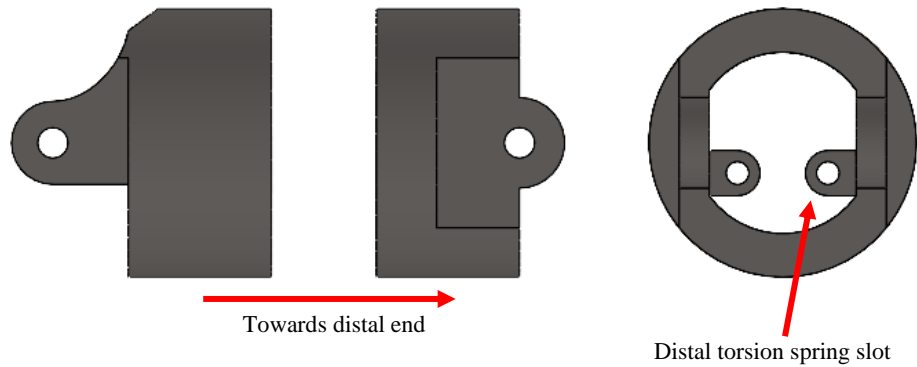
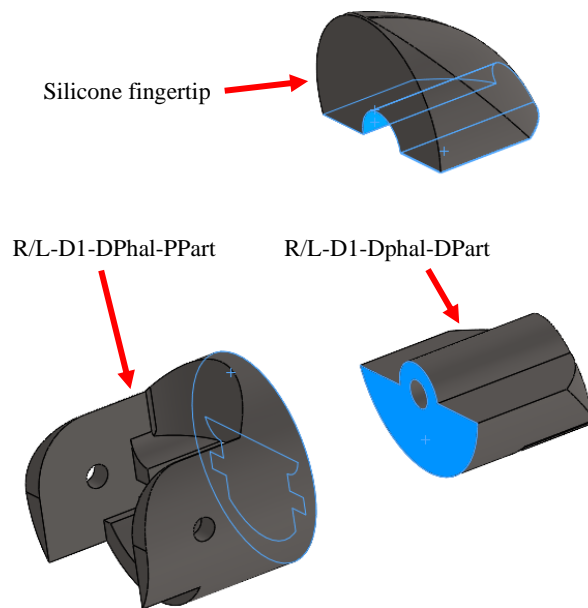

Figure 12: Distal torsion spring slot
Figure 13: Gluing distal surfaces for thumb
- A. Glue together **D1-IPhal-DPart** and **D1-IPhal-PPart** such that the interior slots meant for the torsion springs are on opposite sides as shown in **Figure 12**. Complete the same process for **D1-DPhal-DPart** and **D1-DPhal-PPart** (**Figure 13**). Additionally, glue the rubber fingertip to the distal part.